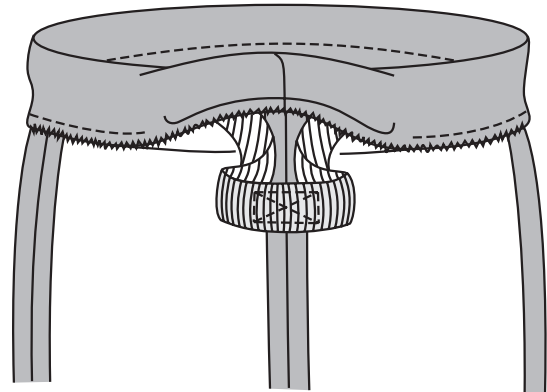

Fig. 1-5
7. Wrap elastic around your waist until it's snug, but comfortable and long enough to stretch over your hips. Mark the length you need on the elastic, adding 2 inches (5 cm) for overlapping the ends. Cut the elastic. Pin a safety pin through one end of the elastic and close the pin. Pull the pin and elastic through the casing, holding onto the loose end of the elastic. Overlap the elastic ends and stitch the overlap in a square pattern. Stitch the open edge of the casing closed. (Fig. 1-5)